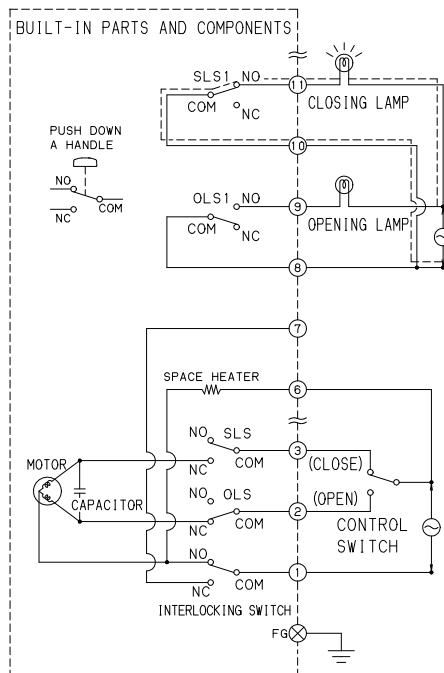

Fig. 8
(2) The actuator shaft rotates and the closing cam breaks NC contact of SLS to stop the motor drive. At the same time, a circuit contacts between ⑩ and ⑪ of SLS1 limit switch to light a closing indicator lamp. (Fig.8)